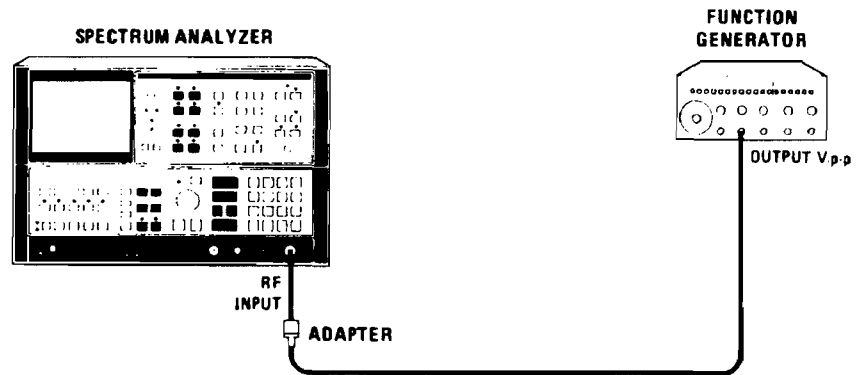
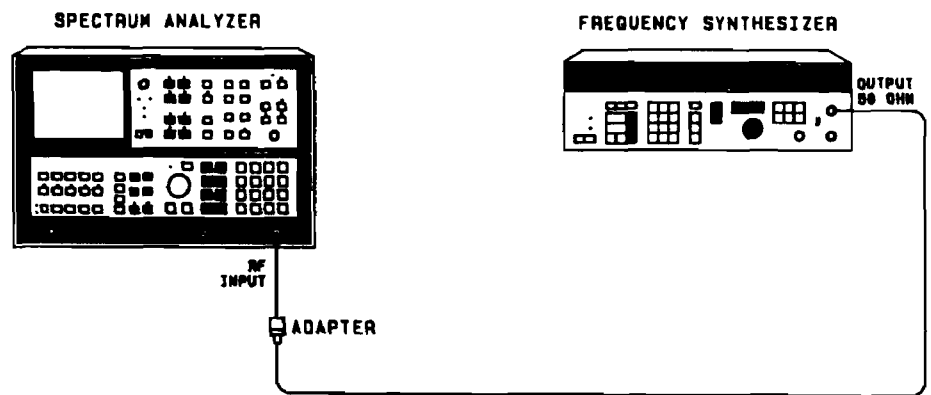

Figure 2-14. Frequency Response Test Setup (100 Hz to 100 kHz)
Figure 2-16.
Equipment listed is for three test setups, Figure 2-14, Figure 2-16, and Figure 2-18.
3. Press **2 - 22 GHz** on the spectrum analyzer. Connect function generator to analyzer RF INPUT as shown in Figure 2-14.
19. Connect equipment as shown in Figure 2-16.